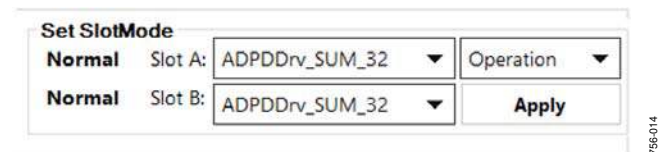

Figure 14. Selecting **ADPDDrv_SUM_32**
2. Before running the WaveTool, make sure the operating mode shown in the **Set SlotMode** window of the data view is set to **ADPDDrv_SUM_32** for both Time Slot A and Time Slot B, as shown in Figure 14.